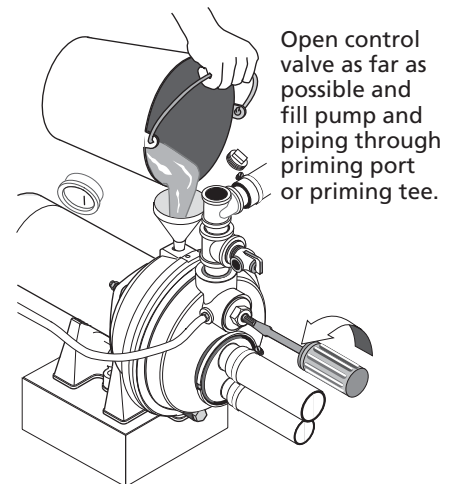

Figure 15 – Fill Pump
1. Open the control valve as far as possible (See Figure 15). Then remove the priming plug from the pump and fill the pump, fill all piping between the pump and the well, and make sure that all piping in the well is full. If you have also installed a priming tee in the suction piping, remove the plug from the tee and fill the suction piping.